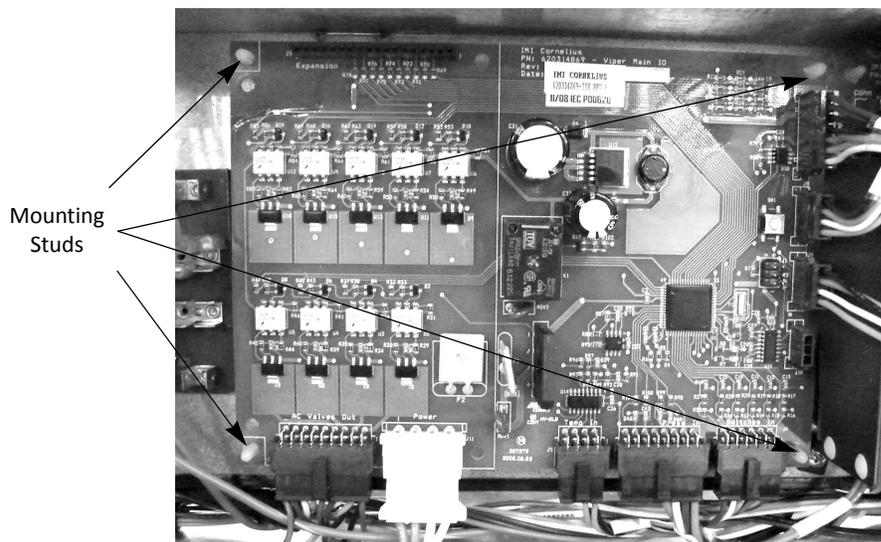

Figure 55. View of Control Board in E-Box
The control board is located in the E-Box. It is mounted to the panel on four (4) plastic mounting studs, shown in Figure 55.
The motor board is located in the E-Box, to the right of the control board. It is mounted to the panel on three (3) plastic mounting studs and a threaded standoff, shown in Figure 55.